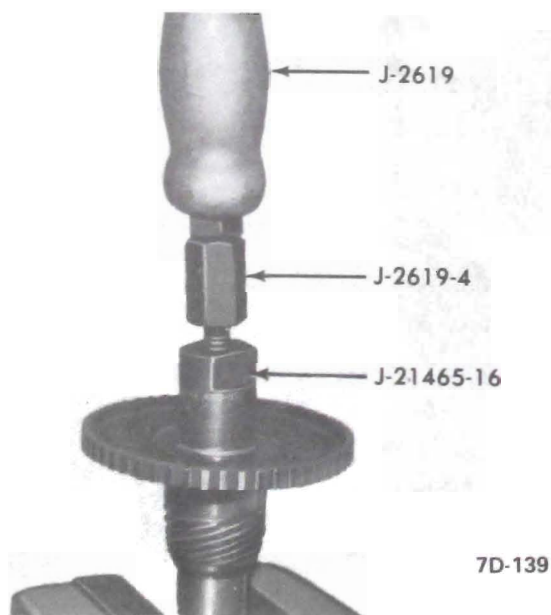

Figure 7D-77
b. Using Tool J-21465-1 install bushing. See Figure 7D-78.